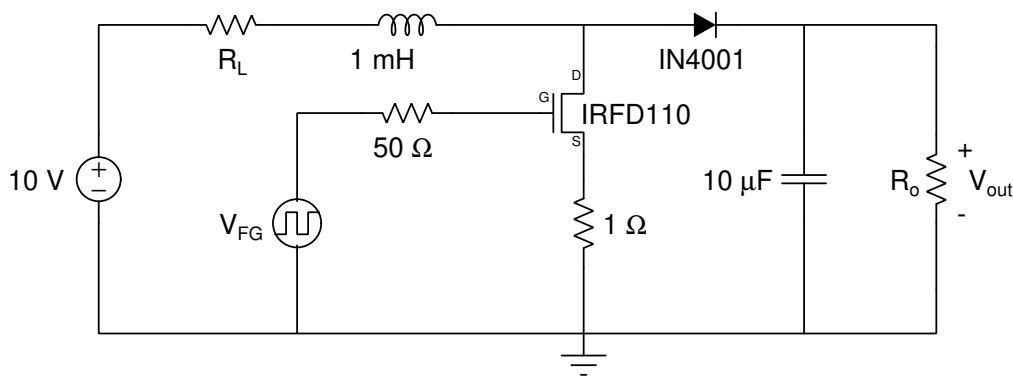

Figure 3: Boost converter circuit for NGSpice simulation and for implementation.
- The period of the square wave (T) used to drive switch S_1 is $t_1 + t_2$; the frequency (f) is $1/T$ and the duty cycle (δ) is t_1/T . What are T , f , and δ for the FG?
- Simulate the boost converter circuit shown in Figure 3. Include the ESR of the inductor. Also include a $1\ \Omega$ resistor between the S terminal of the transistor and ground to allow for the simulation of the current through the transistor.
1. Build and test the boost converter circuit shown in Figure 3 using the component values and FG settings determined in step 2i of the Pre-Lab. Check the signal on the scope to make sure it is correct before applying it to the circuit.